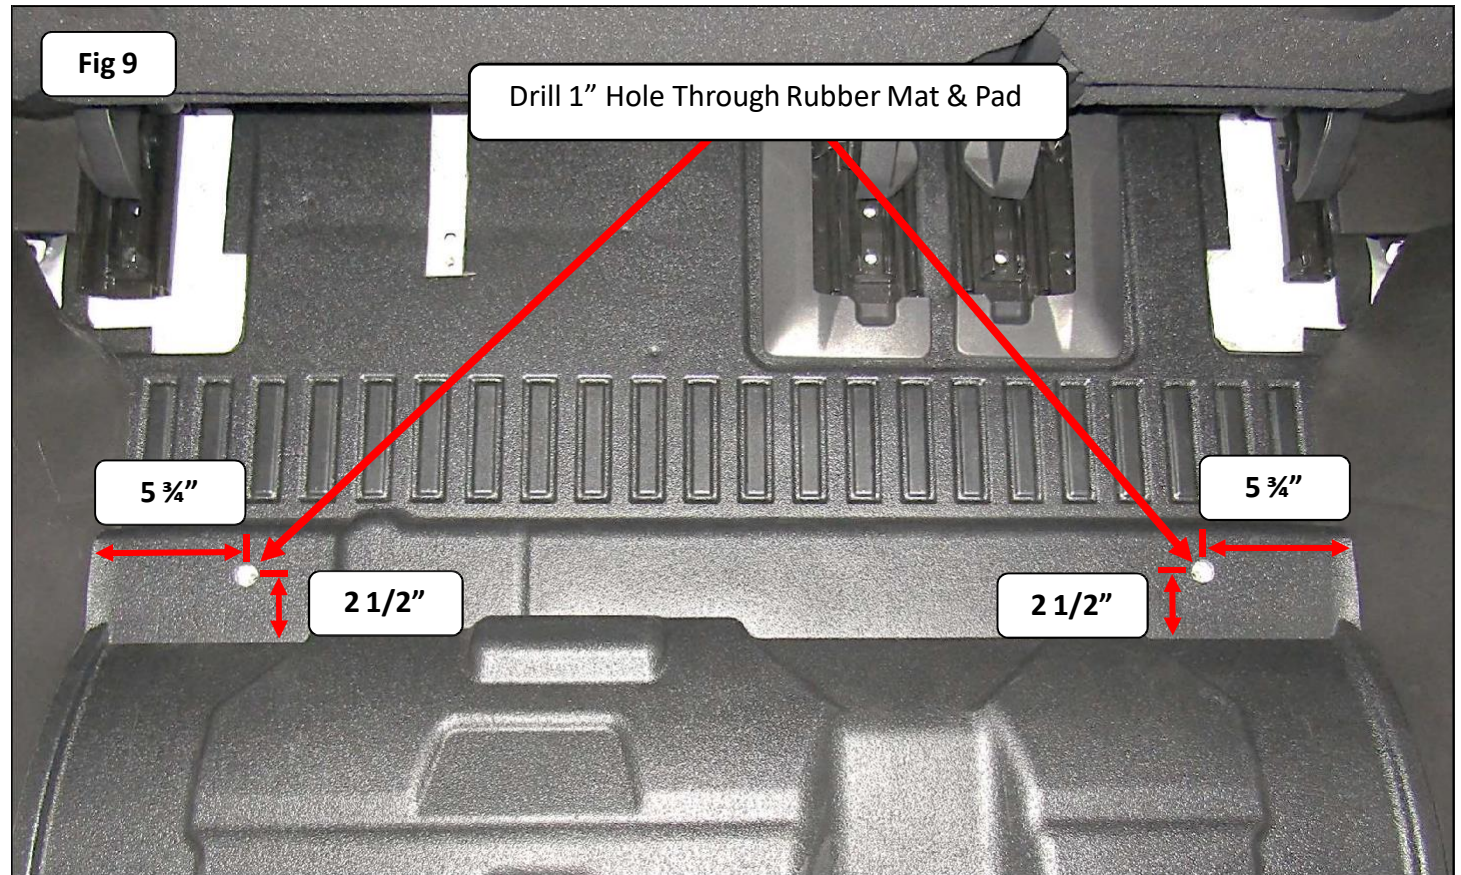

Fig 10
Step-14 Attach (1) Buckle to each Outer Buckle Bracket using (2) Button Head Hex Drive Screw, 1/4"- 20 X 1", (2) Flat Washer 1/4" and (2) Nylon-Insert Locknut 1/4"- 20, {Fig 10}.